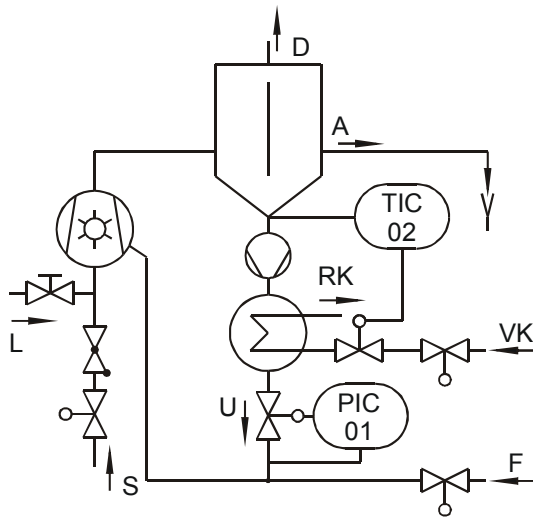

Fig. 17 Closed circulation cooling
- ▶ Set the pressure in the operating liquid pipe to a value which is 0.1 bar smaller than the compression pressure (→Diagram Fig. 17)